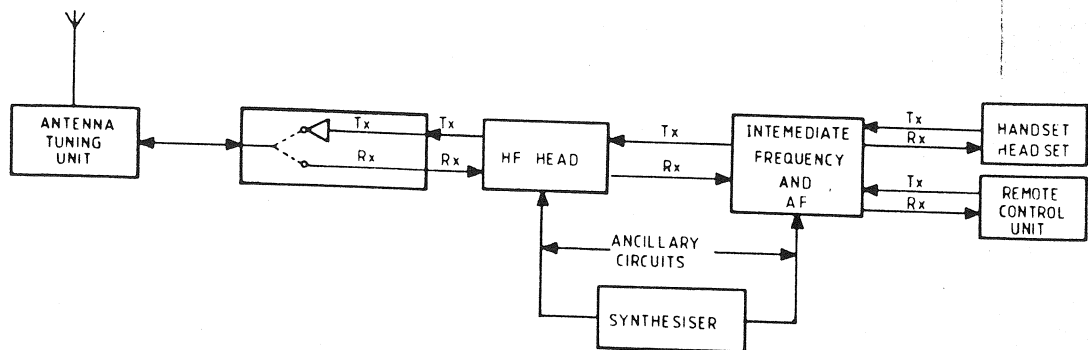

Fig. 2B.1 Simplified Block Diagram
- 7 The transceiver can be conveniently divided into five separate functions as shown in Figure 2B.1 below.